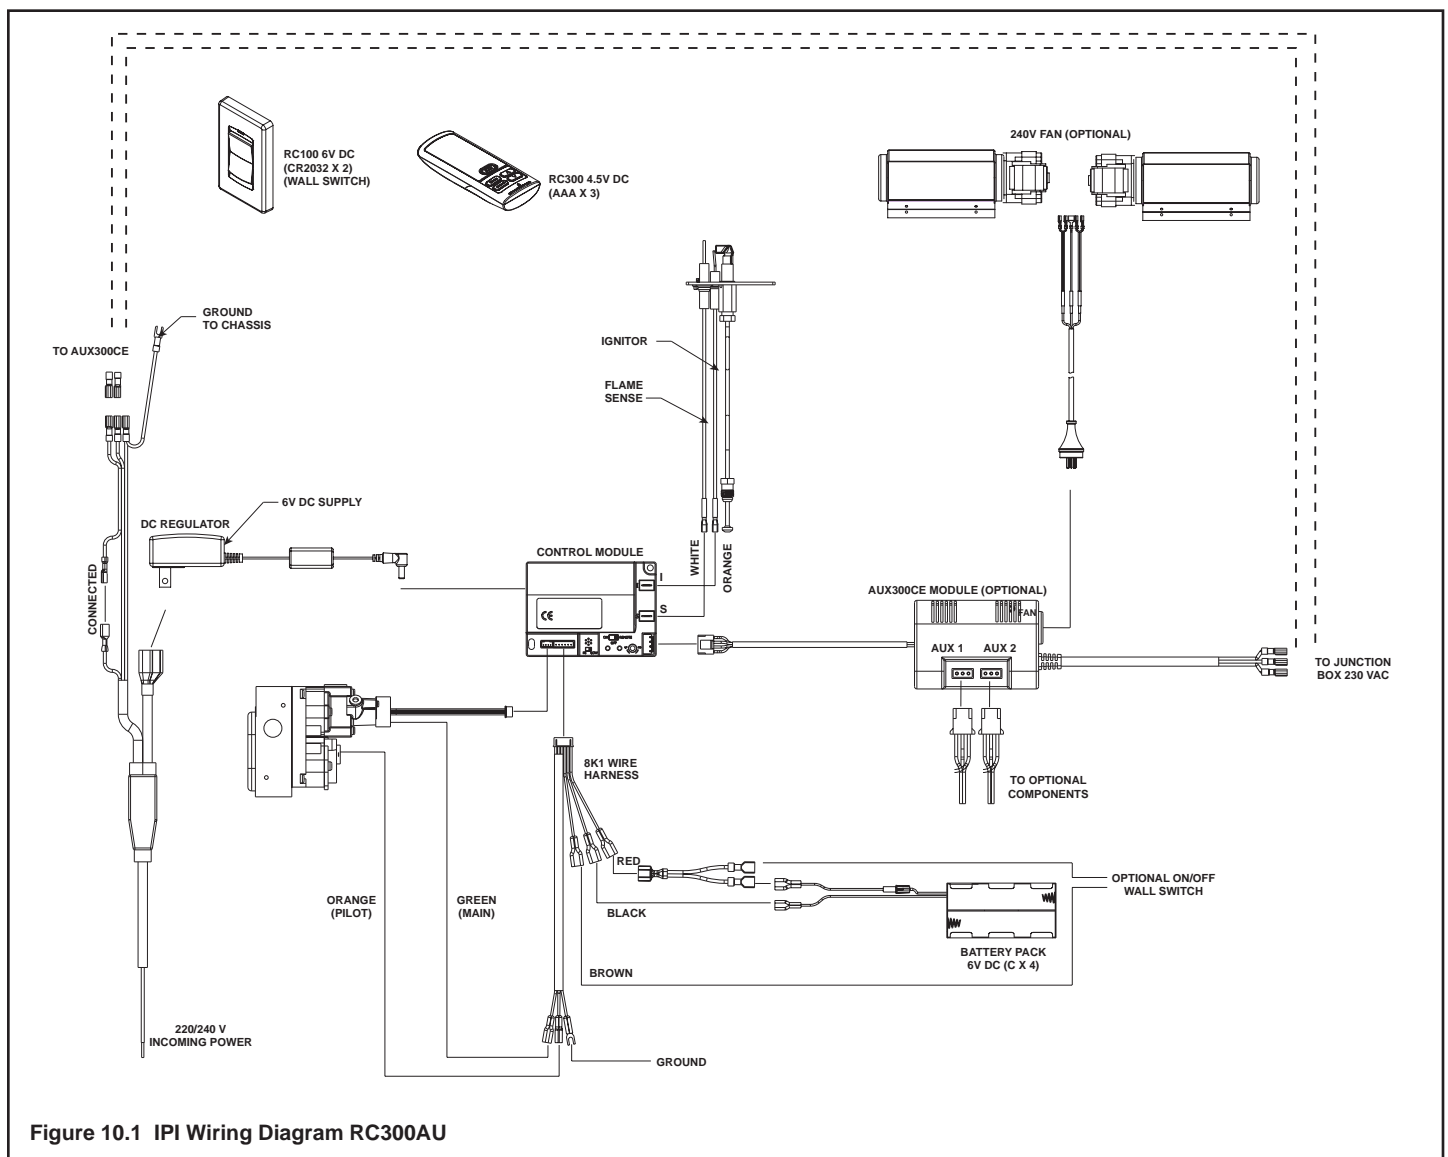

Figure 10.1 IPI Wiring Diagram RC300AU
- Refer to Figure 10.1, IPI Plus Wiring Diagram.